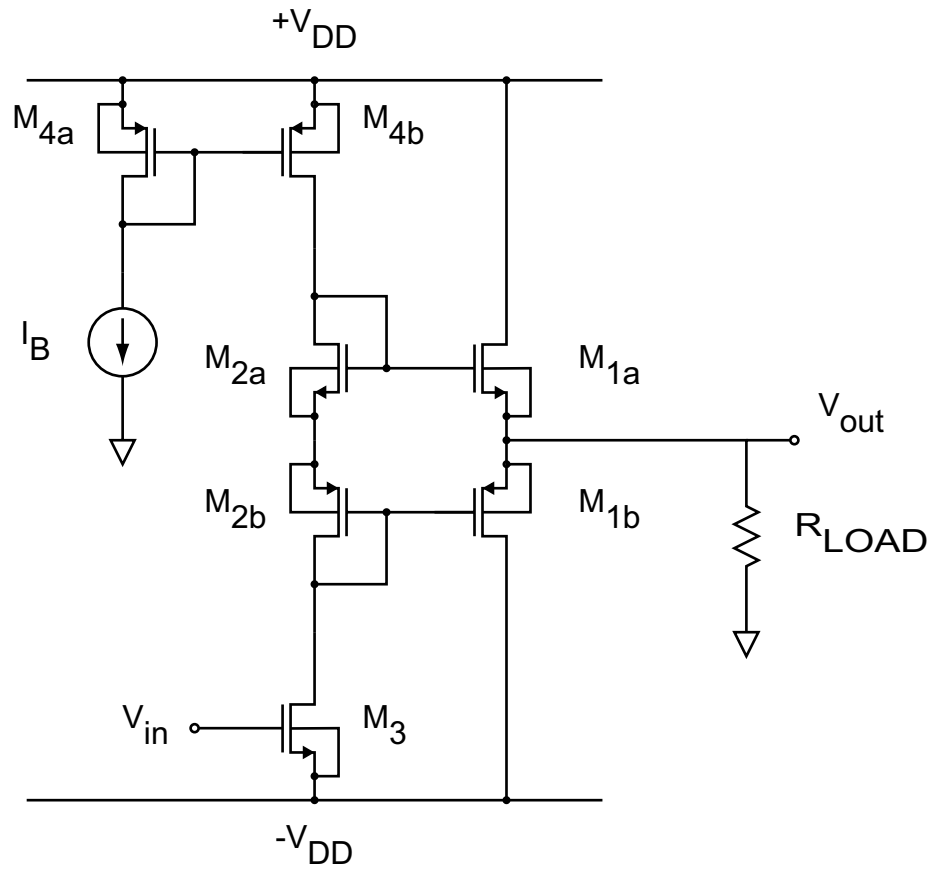

Figure 2.
2) For the circuit shown in figure 2: